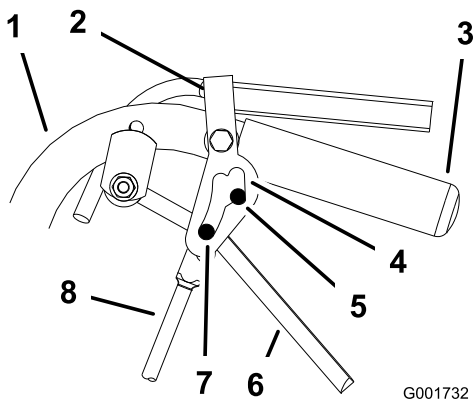

Figure 42
5. Release and engage neutral lock checking that the tire does not rotate (Figure 42). Continue this process until the tire does not rotate.